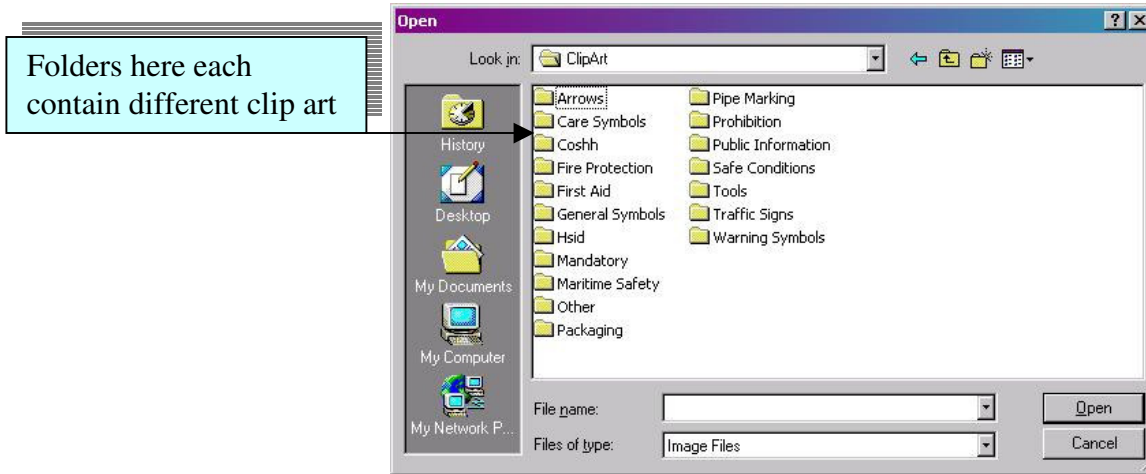

Figure 3.6.1.9: ClipArt Folders
4. Double Click on one of the folders that you now see at that location (see Figure 3.6.1.10).